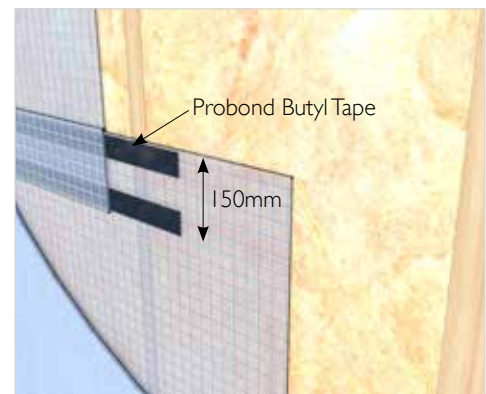

Fig. 2: Procheck Series: Lap joint detail with double run of Probond Butyl Tape
2. Install the VCL horizontally or vertically in an even manner ensuring the membrane is flat against the substrate and without wrinkles. If installing horizontally, work from bottom to top to ensure overlaps are shingled (Fig.2).
3. Vertical and horizontal overlaps should be min. 150mm. Seal between overlaps with a double run of Probond Butyl Tape (Fig.2).